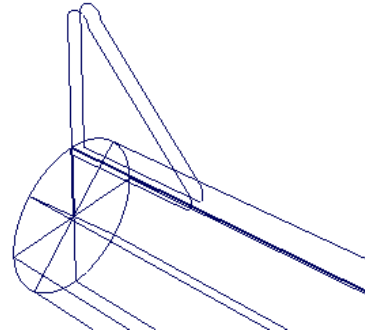

Figure 3-101 Copied profile moved to a new position
- Next, choose the **Move** tool from the **Transform** tab in the **Palette** and then move the linearc to a new position, as shown in Figure 3-101.